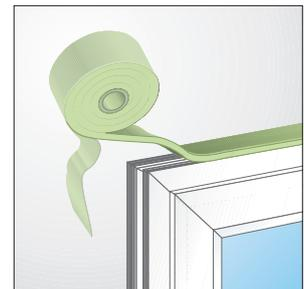
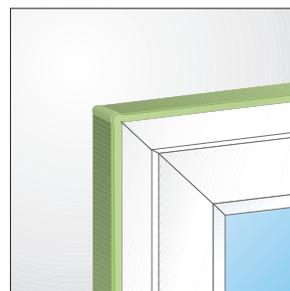

Fig. 2
Fig. 3
- Prior to installing the window, cut off the wedge shaped start of the roll and apply the tape to the outer edge of the window frame, recessed back from the external frame face by 1 – 2 mm, applying a separate length for each side to be sealed, bonding with the aid of the self-adhesive strip, ensuring that the light grey tape face is to the inside of the opening (See Fig. 2). Normally, the TP651 is applied to the head and two sides to allow for insertion of packers under the sill. Allow an extra 20 mm/m when cutting the tape length to allow for potential shrinkage- the dimension should be based on the opening size, not frame dimension. Make tight butt joints at the corners and between the end of one roll and start of another. Pay particular attention to the corner joints (See Fig. 3).